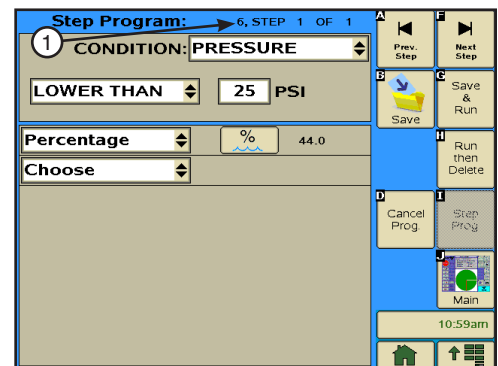

Figure 137-2 1. Step Program Identifier
5. Program the pressure condition for this step. Refer to Figure 137-2.